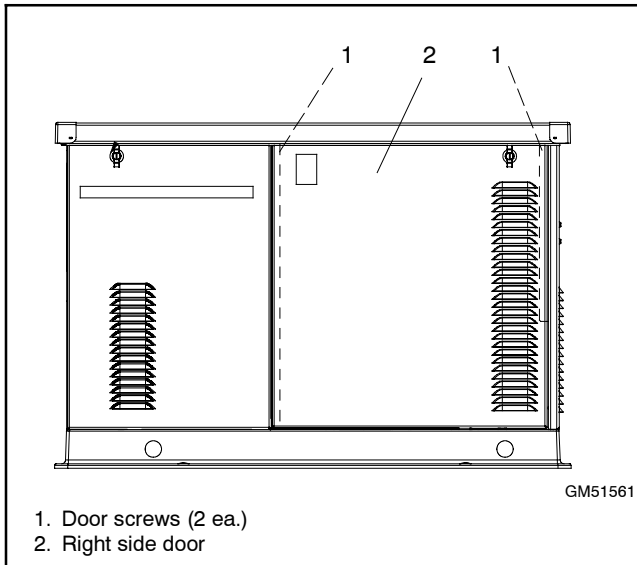

Figure 6-3 Right Side Door
6. Remove two door screws. See Figure 6-3. Lift the service-side door up and off.